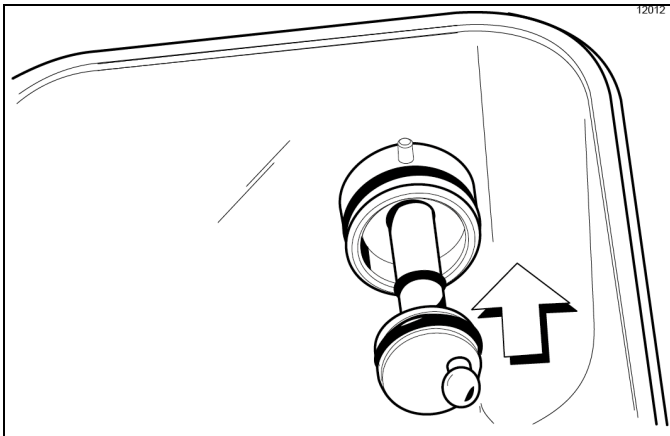

Figure 6-29
13. Install the hex end of the driveshaft into the drive hub at the rear wall of the mix hopper. (See Figure 6-29.)